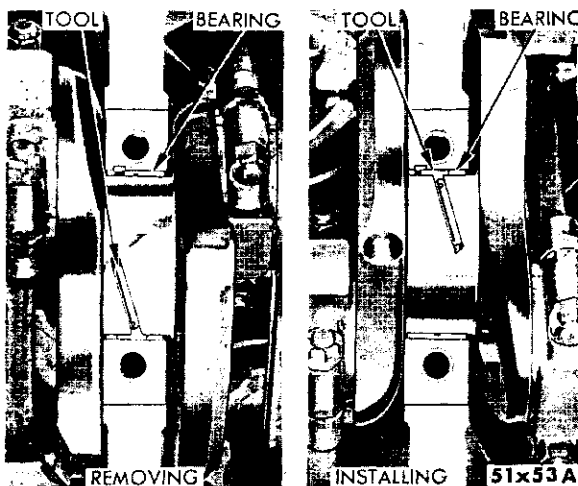

Fig. 52—Removing Main Bearing Upper Shell
(1) Remove the oil pan and mark bearing caps before removal.
(2) Remove the bearing caps one at a time. Remove the upper half of bearing by inserting Tool C-3059 (Figure 52) into the oil hole of crankshaft.
(3) Slowly rotate crankshaft clockwise, forcing out upper half of bearing.
(1) Lubricate the bearing. Start bearing in place, and insert Tool C-3059 into the oil hole of crankshaft (Figure 52).
(2) Slowly rotate the crankshaft counter-clockwise sliding the bearing into position.
(3) After all bearings have been fitted, tighten all caps to 85 foot-pounds torque. The crankshaft end clearance at the #3 main bearing should be .002 to .007 inch.